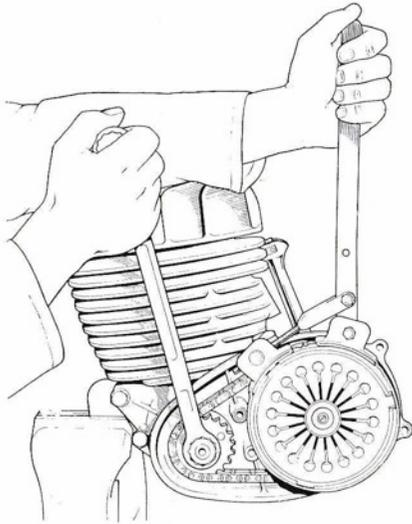

Fig. 5 Strap wrench in use on clutch.
- 1 Assemble strap wrench 0710061 to the clutch drum as shown in Fig. 5, taking care not to mark the joint face of the inner chaincase. This will prevent the transmission turning.